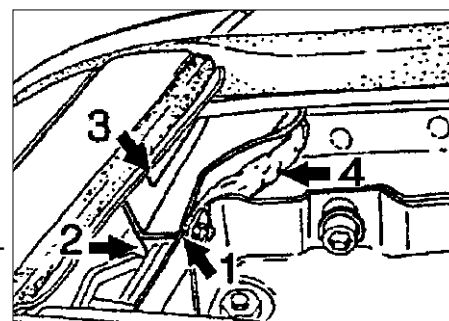

Figure 1
- The complete water channel must enter into the guide rail and be slightly bent to the outside. It must not protrude on the side (arrow 1, figure 1). The sides must be bent without kinks slightly to the top.
The end piece (arrow 2, figure 1) must point straight to the bottom into the guide. The drip pan which is located below the side wind deflector (sheet metal strip, arrow 3, figure 1) must go into the water channel and lay on the side of the channel. The water channel can be adjusted by installing butyl sealing strips or similar material (arrow 4, figure 1). All areas of the channel must be even without any kinks. The rear end of the butyl sealing strip must connect with the guide rail on the inside of the side wall (arrow 1, figure 1)